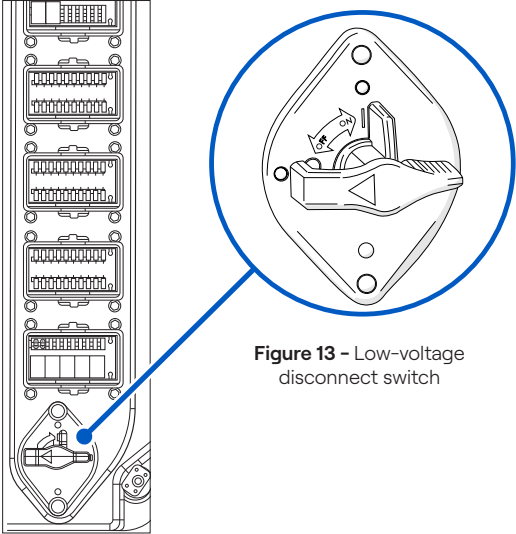

Figure 13 - Low-voltage disconnect switch
6. Turn the low-voltage disconnect switch to the "OFF" position (**Figure 13**).